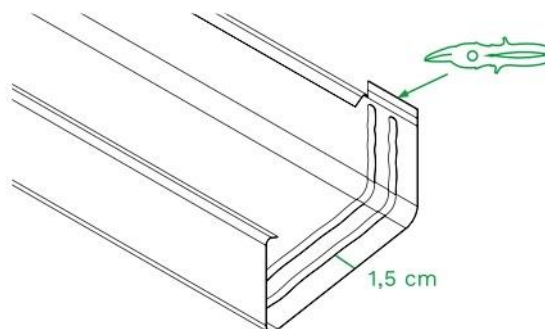

Figure 9
- Notch and bend the rear gutter drip where the joint is planned (35 mm from the end) (**Fig. 9**) and insert the gutter into the brackets.
- Cover the inside surface of the gutter with the sealing adhesive - about 1.5 cm from the end of the gutter (**Fig. 9**).
- Notch and bend the rear gutter drip at the point of the planned joint (35 mm from the end) (**Fig. 9**).
- 7.1. Notch and bend the rear gutter drip to the vertical position at the point where the joint is planned (35 mm from the end) (**Fig. 9**) and insert the gutter into the brackets.
- 7.2. Cover the inside surface of the gutter tips with the sealing adhesive - about 1.5 cm from the end of the gutter (**Fig. 9**)